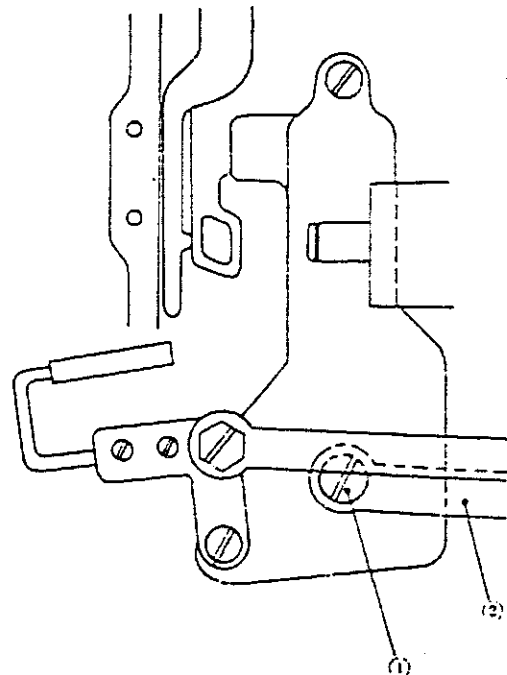

Fig. 26
- 1) Loosen screw ① (Fig. 26).
After tightening the hinge screw of the moving knife, move the moving knife by hand to confirm that it moves smoothly without play. Securely insert the pin for knife forked base into the forked base for knife, and tighten the hinge screw for knife forked base. Confirm that the knife is actuated when knife driving shaft ② (Fig. 26) is moved to the right and left.